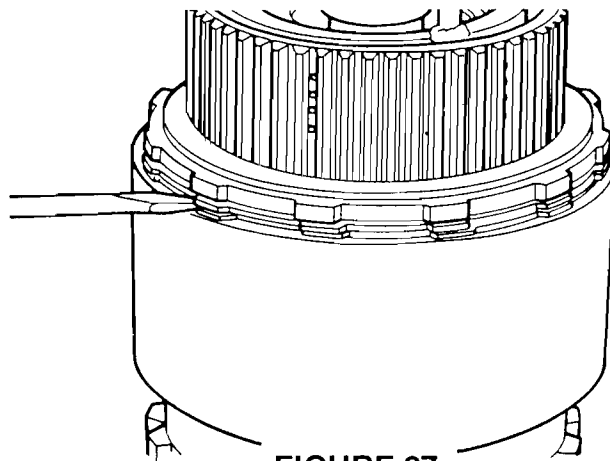
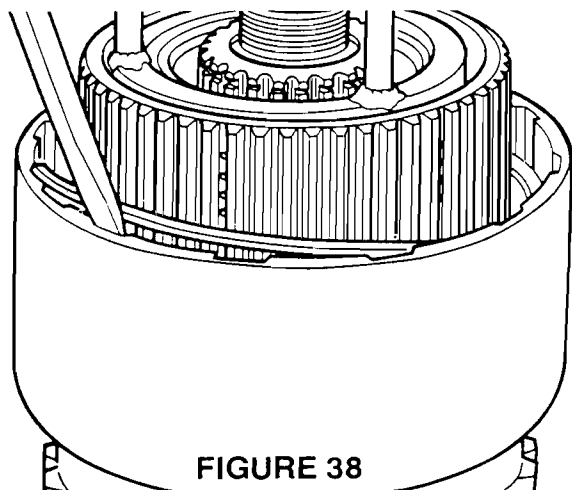
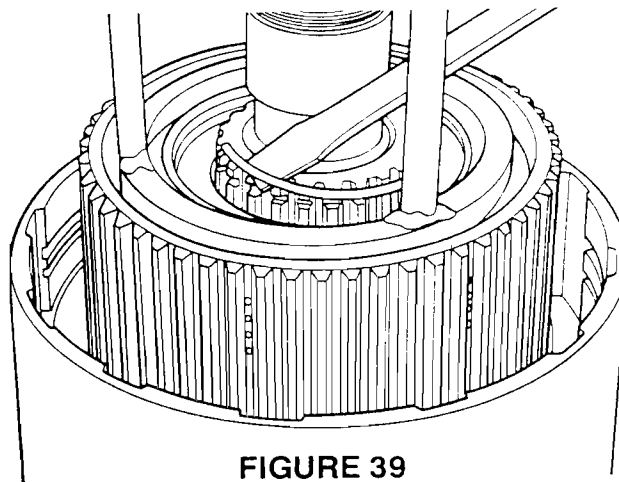

FIGURE 37
FIGURE 38
FIGURE 39
6. This step involves compressing the direct clutch spring with the arbor press. Set special tool, C-6227-1, on the hub and compress the spring. Remember, you'll need a helper to operate the press because, as the spring is compressed, you must slide the clutch plates into their grooves and down the hub (Figure 37.) Then install the large load-retaining snap ring, seating it firmly with a large screwdriver (Figure 38). Now install the safety ring (Figure 39). Slowly release the press, ensuring that the load-retaining rings are properly seated. Install governor and snap ring.